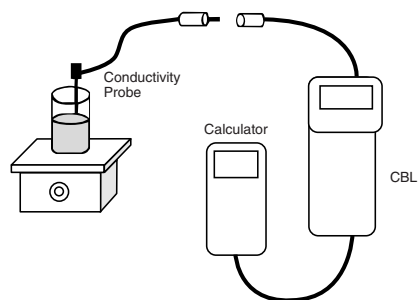

Figure 1.
1. A sketch of the apparatus is shown in Figure 1. Use a wooden, clothes pin-type clamp to hold the pH probe in place.